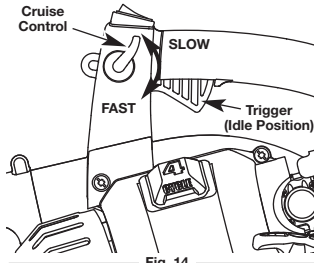

Fig. 14
- Once the engine has started and warmed up, squeeze the trigger to accelerate the unit as needed (Fig. 14).
- For longer periods of operation and to eliminate possible finger fatigue, move the cruise control toward the FAST position to incrementally increase or maintain the unit's engine speed (Fig. 14). When the cruise control is pressed, the trigger will recede into the handle.
- To decrease engine speed, move the cruise control to the SLOW position and the trigger will return to idle (Fig. 14).